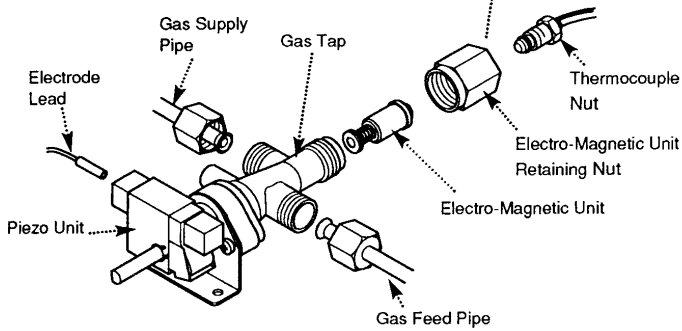

Fig.59
10.9 Gas Tap and Piezo Unit (Fig. 59)
10.10 Electro-Magnetic Unit (Fig. 59)